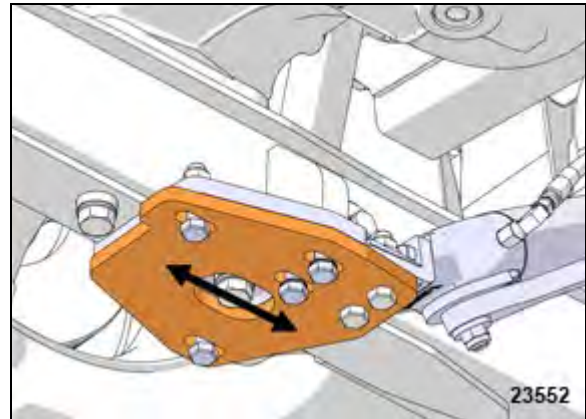

FIGURE 37: FORE AND AFT ADJUSTMENT VS TIRE CENTERLINE
- The middle of the rub mark must match the vertical centerline or be up to 3/8th of an inch behind (rearward) the centerline. *Rub mark must never be forward the centerline (toward front of vehicle).* To adjust centerline position, loosen the four (4) support plate to frame bracket screws and slide the entire mechanism fore or aft as shown in FIGURE 37.